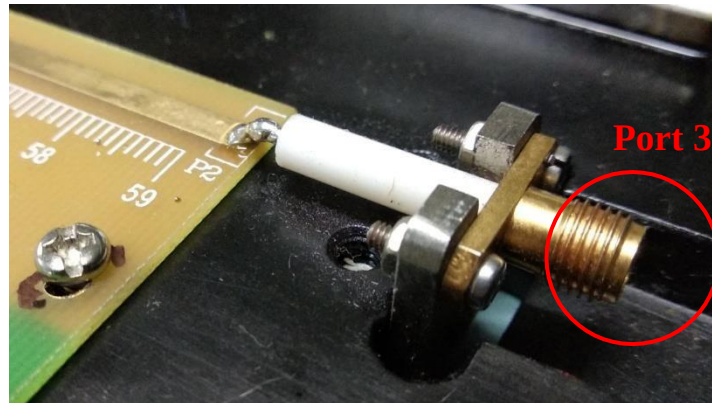

Fig.2
5. Connect Load at Port 3 of transmission line assembly (Fig.2)